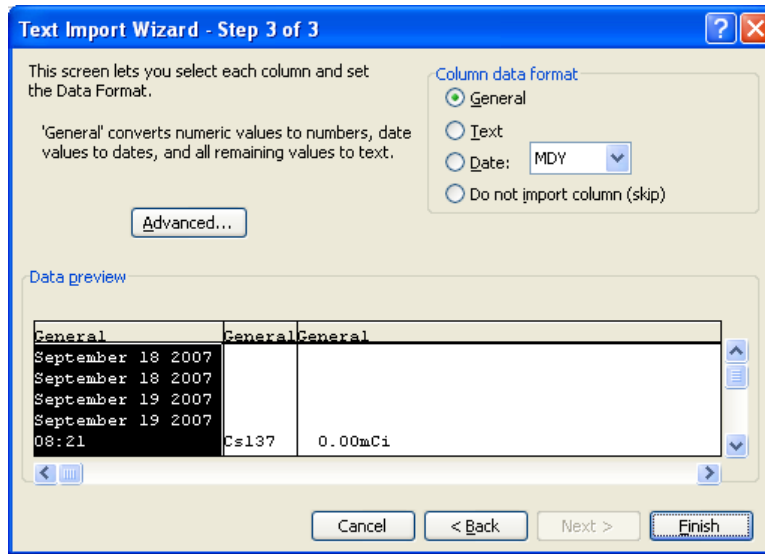

Figure 34
3. Verify that the options are set as above. Click the Next> button. Figure 34 will appear.